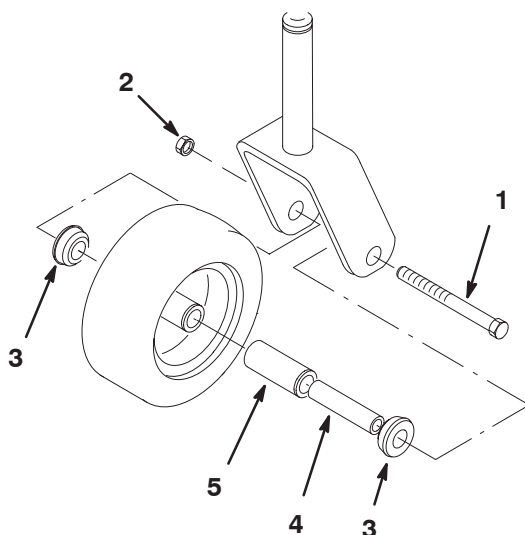

Figure 57
1. Remove the locknut and wheel bolt holding the caster wheel to the caster fork (Fig. 57).
2. Remove one bushing, then pull the spanner bushing and roller bearing out of the wheel hub (Fig. 57).
3. Remove the other bushing from the wheel hub and clean any grease and dirt from the wheel hub (Fig. 57).
4. Inspect the roller bearing, bushings, spanner bushing and inside of the wheel hub for wear. Replace any defective or worn parts (Fig. 57).
5. To assemble, place one bushing into the wheel hub. Grease the roller bearing and spanner bushing, and slide them into the wheel hub. Place the second bushing into the wheel hub (Fig. 57).
6. Install the caster wheel into the caster fork and secure with the wheel bolt and locknut. Tighten the locknut until the spanner bushing bottoms against the inside of the caster forks (Fig. 57).